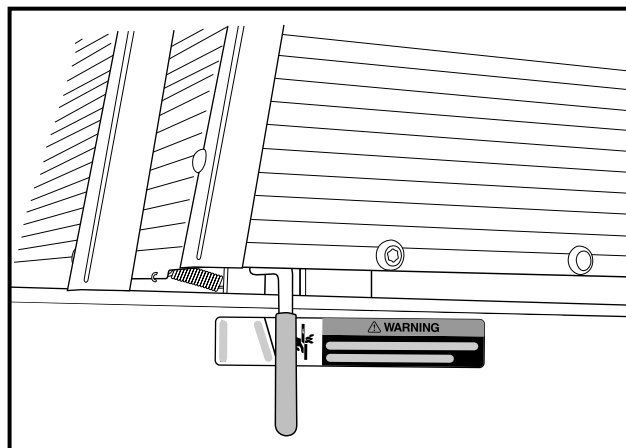

Figure 10 Bed Latch
The Carryall 1 and 2 are equipped with a bed latch (1) on the driver side of the vehicle as standard equipment (**Figure 10, Page 28**). To lift bed, pull latch handle toward back of the vehicle and lift the bed.